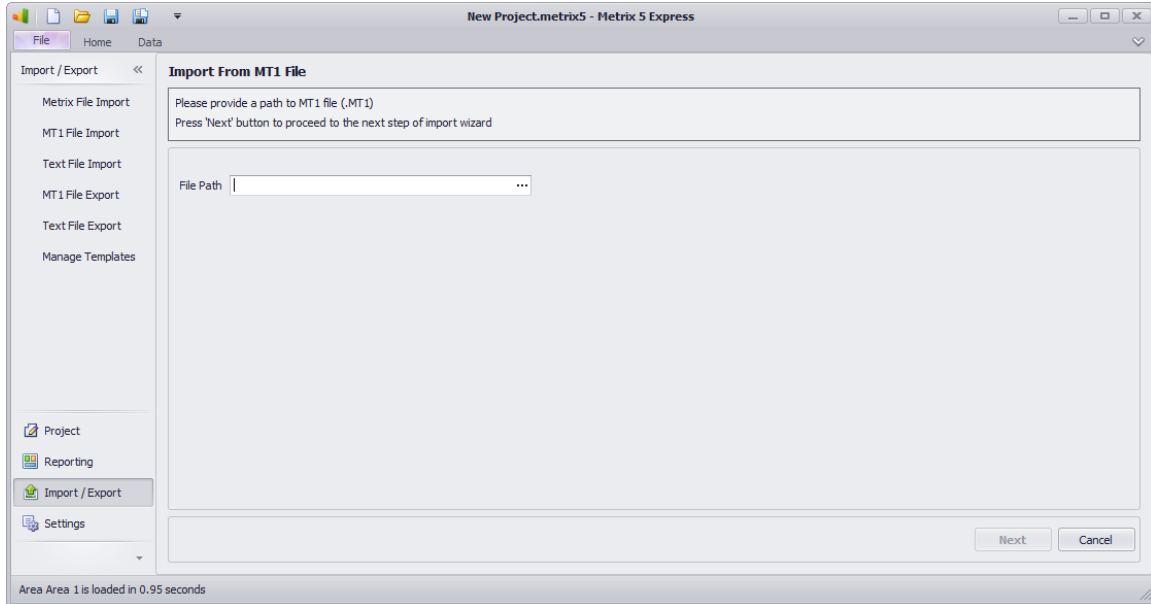

Figure 5.2: Window to enter the file path for the imported file.
1. **Select the MT1 file:** Click on the MT1 File Import button in the main menu shown in Figure 5.1. A new window as the one shown in Figure 5.2 will appear. This window will ask you to provide the file path.